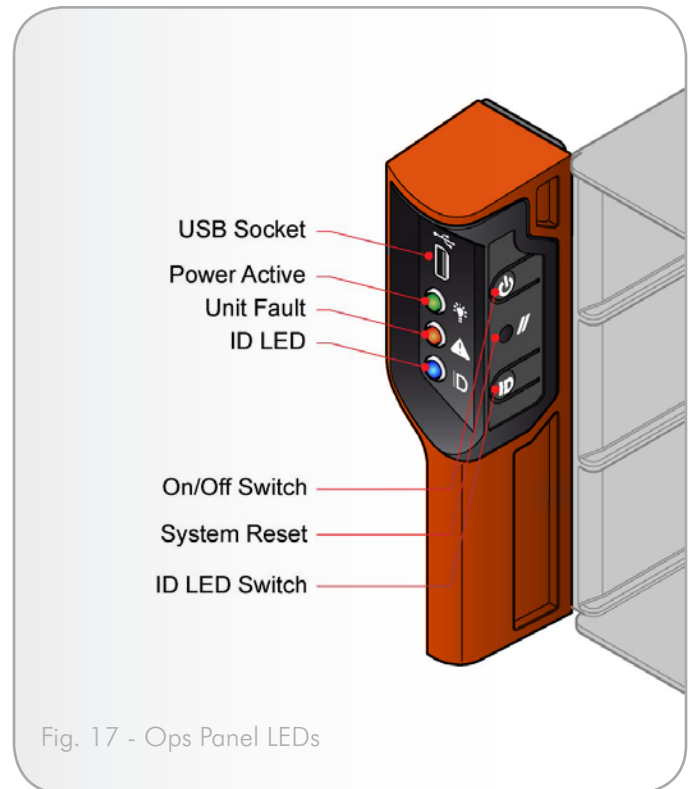

Fig. 17 - Ops Panel LEDs
- ◆ Switch off the Power Supply Unit(s) installed in the enclosure by pressing the Power push-button on the Ops Panel assembly (shown in Fig. 17) for approximately 3 seconds.
The Ops Panel (*Fig. 17*) displays the aggregated status of all the modules. The Ops Panel LEDs are defined in *Table 08*.